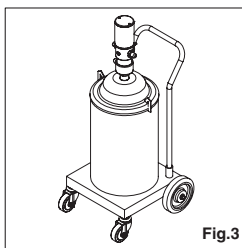

Fig.3
3. Put the pump, follower plate and the cover back to the tank and fix the cover to the tank. (Fig.3)